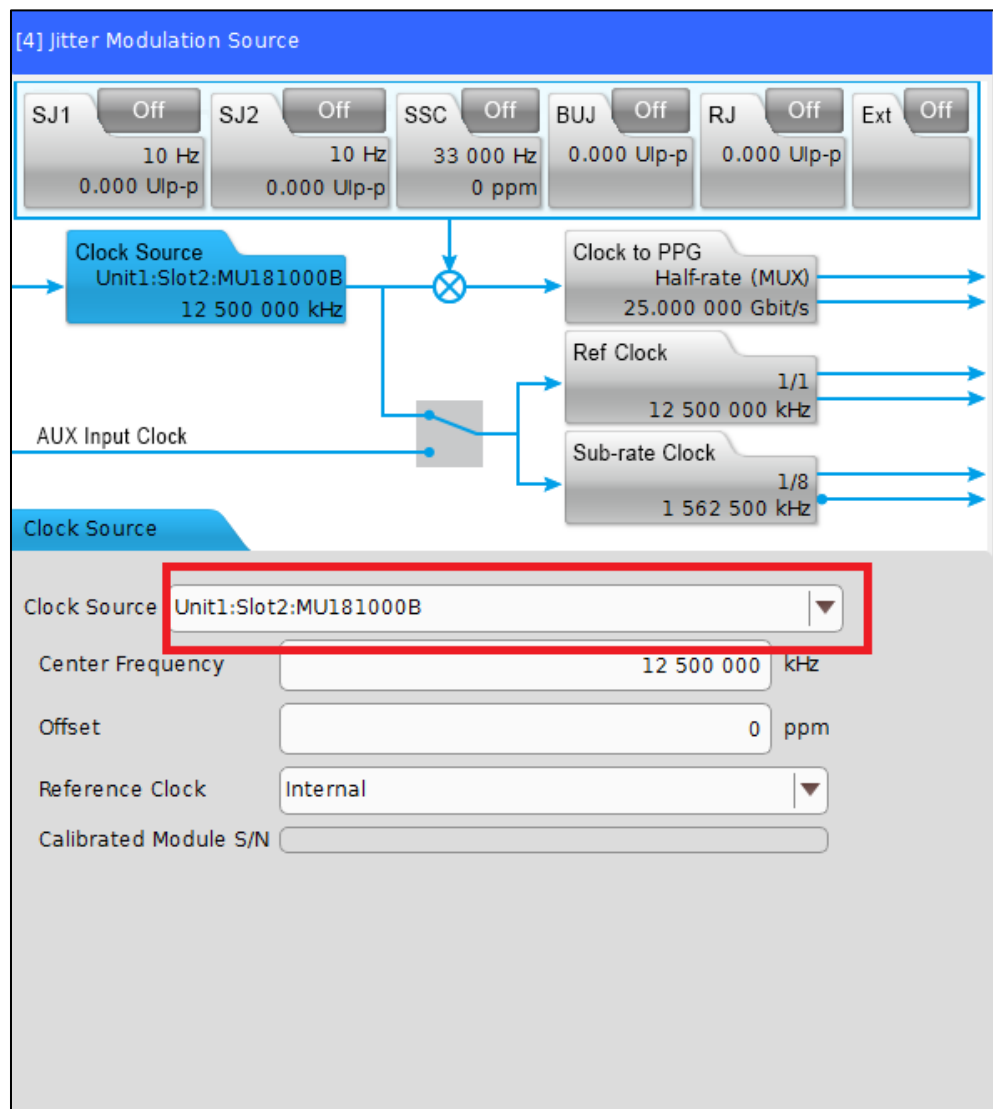

FIGURE 61. JITTER CLOCK SOURCE SETTING
- iii. Go to Jitter tab and set Clock Source to “Unit1:Slot2:MU181000B”. See Figure 61.